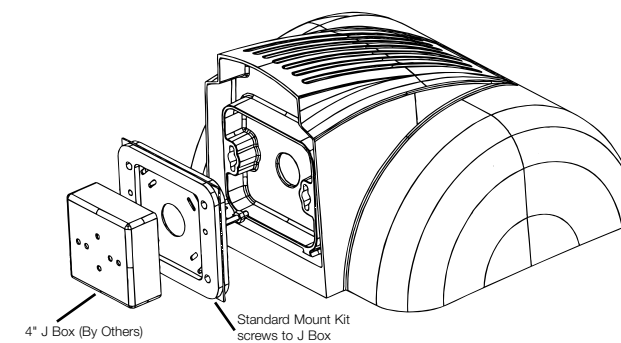

Fig. 1
1. Standard Mount—mounts to any standard 4" J-box. (Included with every fixture) (See Fig. 1).